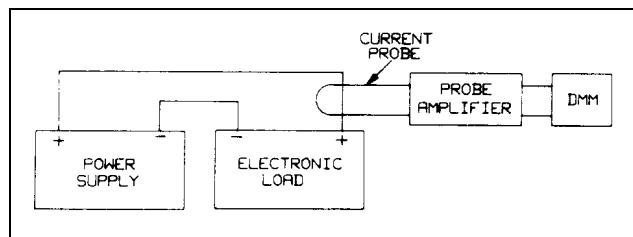

Figure 2-3. Test Setup C
- a. Connect the Electronic Load, power supply (Agilent 6032A or equivalent, DMM, and current probe as shown in Figure 2-3. Set power supply for 10V and >10A.